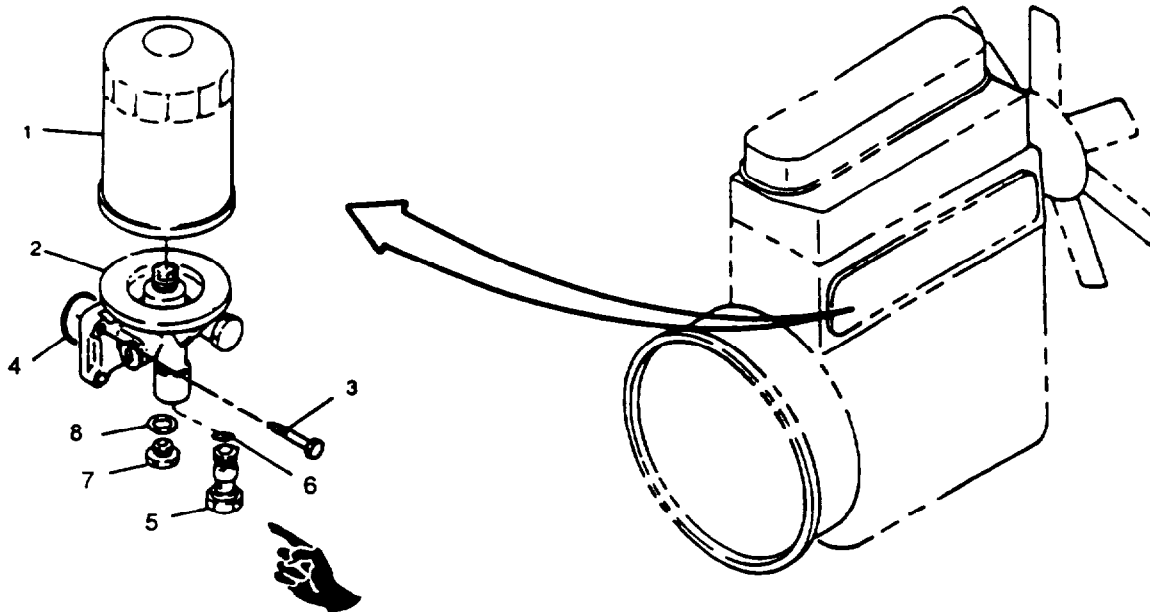

FIGURE 3-38. Oil Filter
- b. Loosen cartridge (1, FIGURE 3-38) by turning counterclockwise with a filter wrench.
- d. Wipe filter head (2) with a clean rag.
- e. Apply light coat of oil to new cartridge (1) gasket.
- f. Place cartridge on filter head (2) and turn clockwise until cartridge is hand-tight on head.
- b. Remove four screws (3, FIGURE 3-38) securing filter head (2) to engine; remove filter head and o-ring (4).
- a. Wipe engine and filter head (2, FIGURE 3-38) mating areas with a clean rag.
- b. Install o-ring (4). Position head (2) on engine and secure with four screws (3). Tighten screws to 168 in-lbs (19.0 Nm).
- b. Remove oil pressure relief valve (5, FIGURE 3-38) and o-ring (6).
- c. If necessary, remove plug (7) and seal (8). Discard seal (8).
- a. Inspect oil pressure relief valve (5, FIGURE 3-38) for damaged threads or other damage.
- b. Inspect plug (7) for damage.